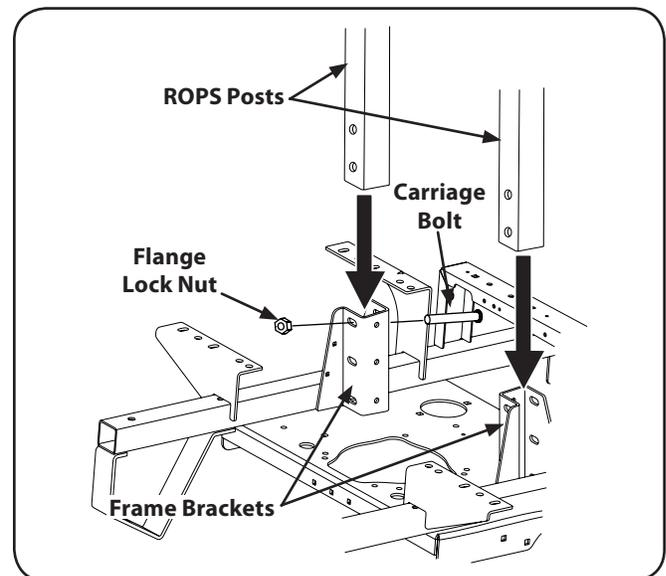

Figure 3-2
1. Insert each of the lower section ROPS tubular "posts" into the brackets welded to the unit main frame. See Fig. 3-2.
NOTE: The ROPS pivot holes should be positioned toward the rear of the unit. See Fig. 3-2.
2. Insert the carriage bolts (½-13 x 3.25) (one per side) from the front toward the rear. See Fig. 3-2. Alternately from the rear toward the front if access is restricted.
3. Three holes are provided on each side. Use the Upper hole and one of the other two remaining holes that is easily accessible. Install the flange lock nuts, but do not tighten. See Fig. 3-2.
- Tighten the frame mounting hardware to 80-90 lb.-ft. torque. See Fig. 3-2.